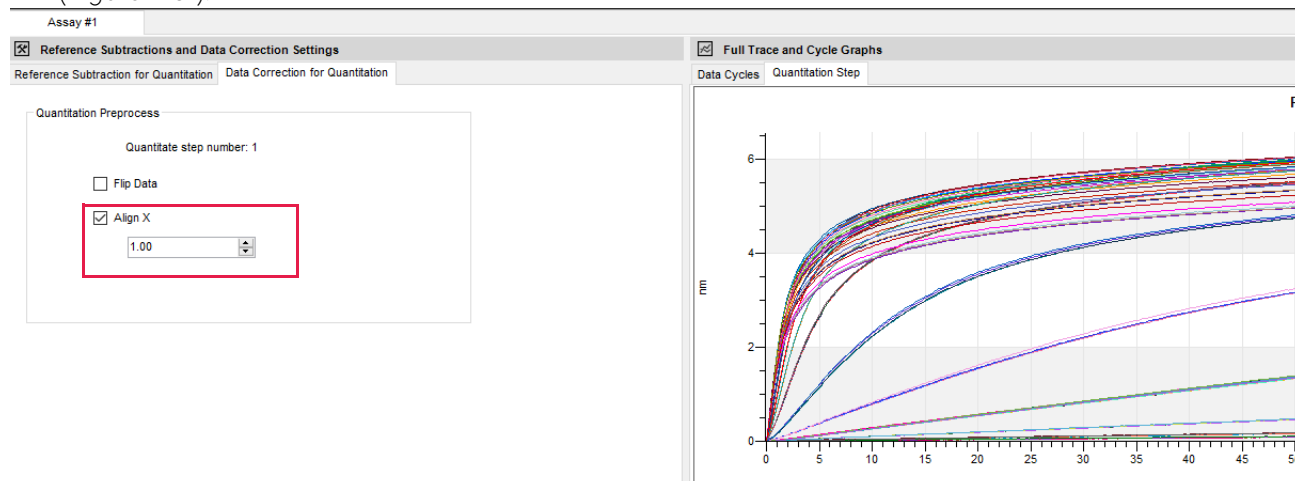

Figure 9-31: Align X
2. Enter a time point (in seconds) or use the up/down arrows to assign a time point to begin alignment (Figure 9-31).